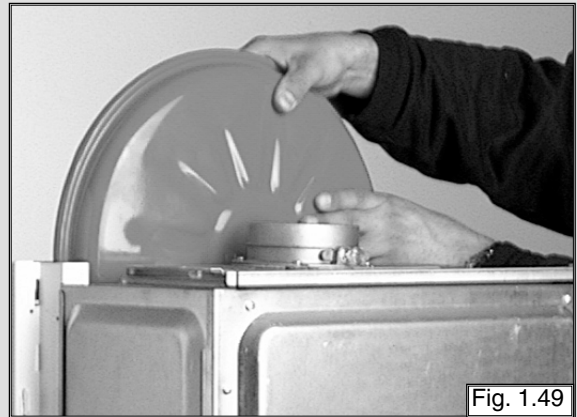

Fig. 1.49
3. Remove expansion vessel (see fig. 1.49).